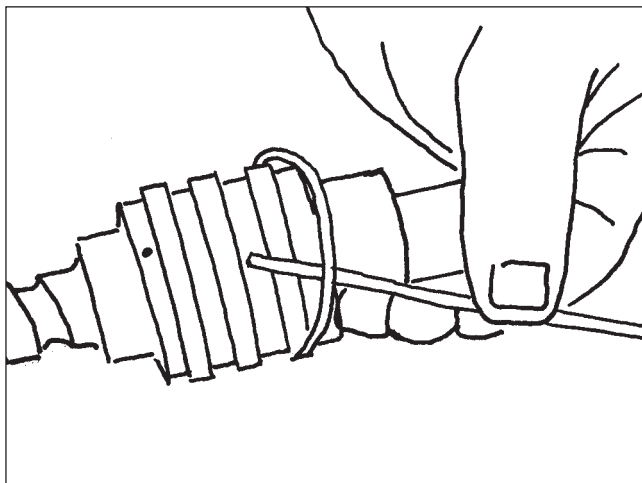

Figure 115
3. Install the 3 energizer O-rings into the rotary valve grooves (Figure 115).